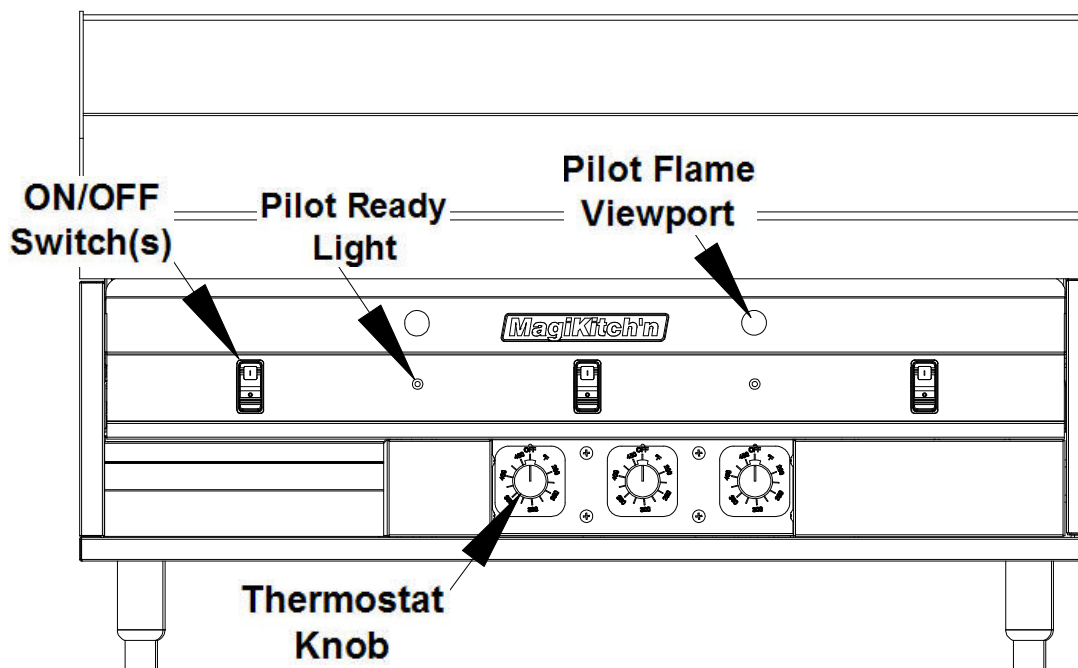

Figure 7
3. Turn the **RED "I/O"** switch to the **"I"** (ON) position for all desired Thermostats to be operated, See Figure 7. When the Pilot ready (Yellow) light illuminates, the pilot(s) are ready to operate the main burners.